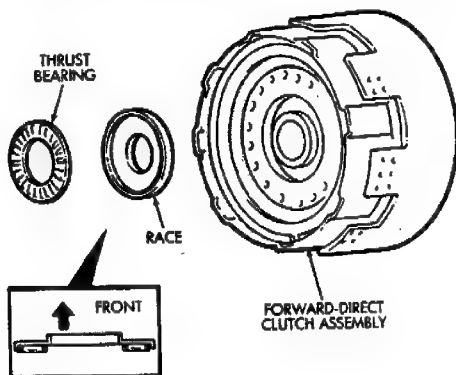
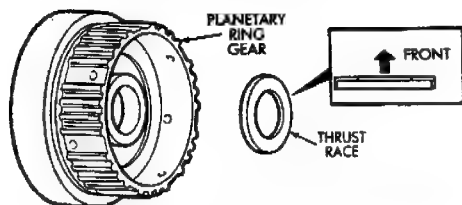

Fig. 24 Installing Forward-Direct Clutch Thrust Bearing And Race
Fig. 25 Installing Planetary Ring Gear Race
(29) Install thrust bearing and race in forward-direct clutch (Fig. 24). Coat bearing/race with petroleum jelly to hold them in place.
(30) Verify forward-direct clutch thrust bearing size. Race outer diameter is 48.9 mm (1.925 in); inside diameter is 26.0 mm (1.024 in). Bearing outer diameter is 46.7 mm (1.839 in); inside diameter is 26.0 mm (1.024 in).
(31) Coat front planetary ring gear race with petroleum jelly and install it in ring gear (Fig. 25).